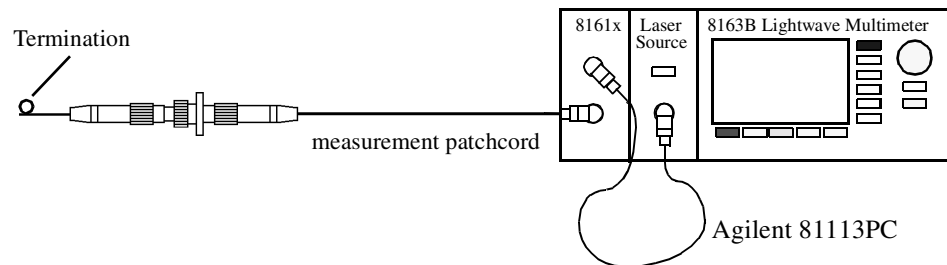

Figure 103 Measuring the Return Loss of the DUT (in this example: a Connector Pair)
- 1 Attach the DUT to the measurement patchcord. In the example shown in Figure 103, the DUT is a connector pair.